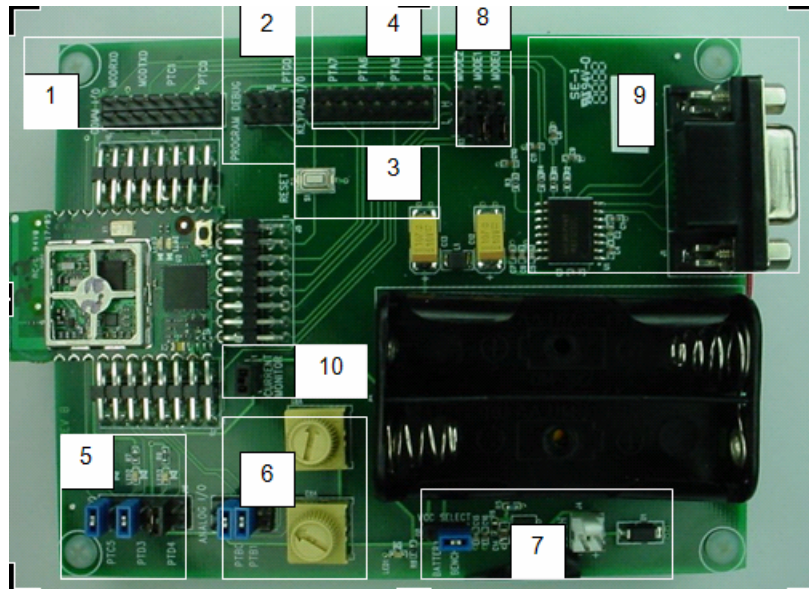

Figure 3-1 Interface Module with Wi.Freestar Module Inserted in Socket
1. Press white reset button on Interface Board (See Figure 3-1 location 3) and black button on Wi.Freestar module simultaneously.
3.1.1 *Interface Board Description for Each Location Shown in Figure 3-1*
- Header that allows the user to monitor the serial TX (MODTXD) and RX (MODTXD) data lines from section 9 as shown in Figure 3-1 above. The header also provides quick access to Port C pins 0 and 1 on the microprocessor.
- To utilize LED's the jumpers must be connected as shown in Figure 3-1. The jumpers may be removed to externally access Port C pin 5 and Port D pins 3 and 4 for input or output operation.